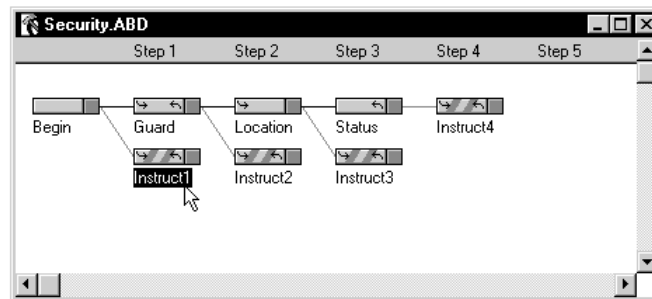

Figure 4-59 “Instruct1” Handler Selected
33. Next, we will add the display messages for each Detour Handler. Click the “Instruct1” Handler (Figure 4-59). The “Instruct1” Handler is stepped to if the user does not scan a valid guard bar code. In this example, we are assuming the guard bar code is on the badge. So, we will use **Scan bar code on badge.** as our instruction message.